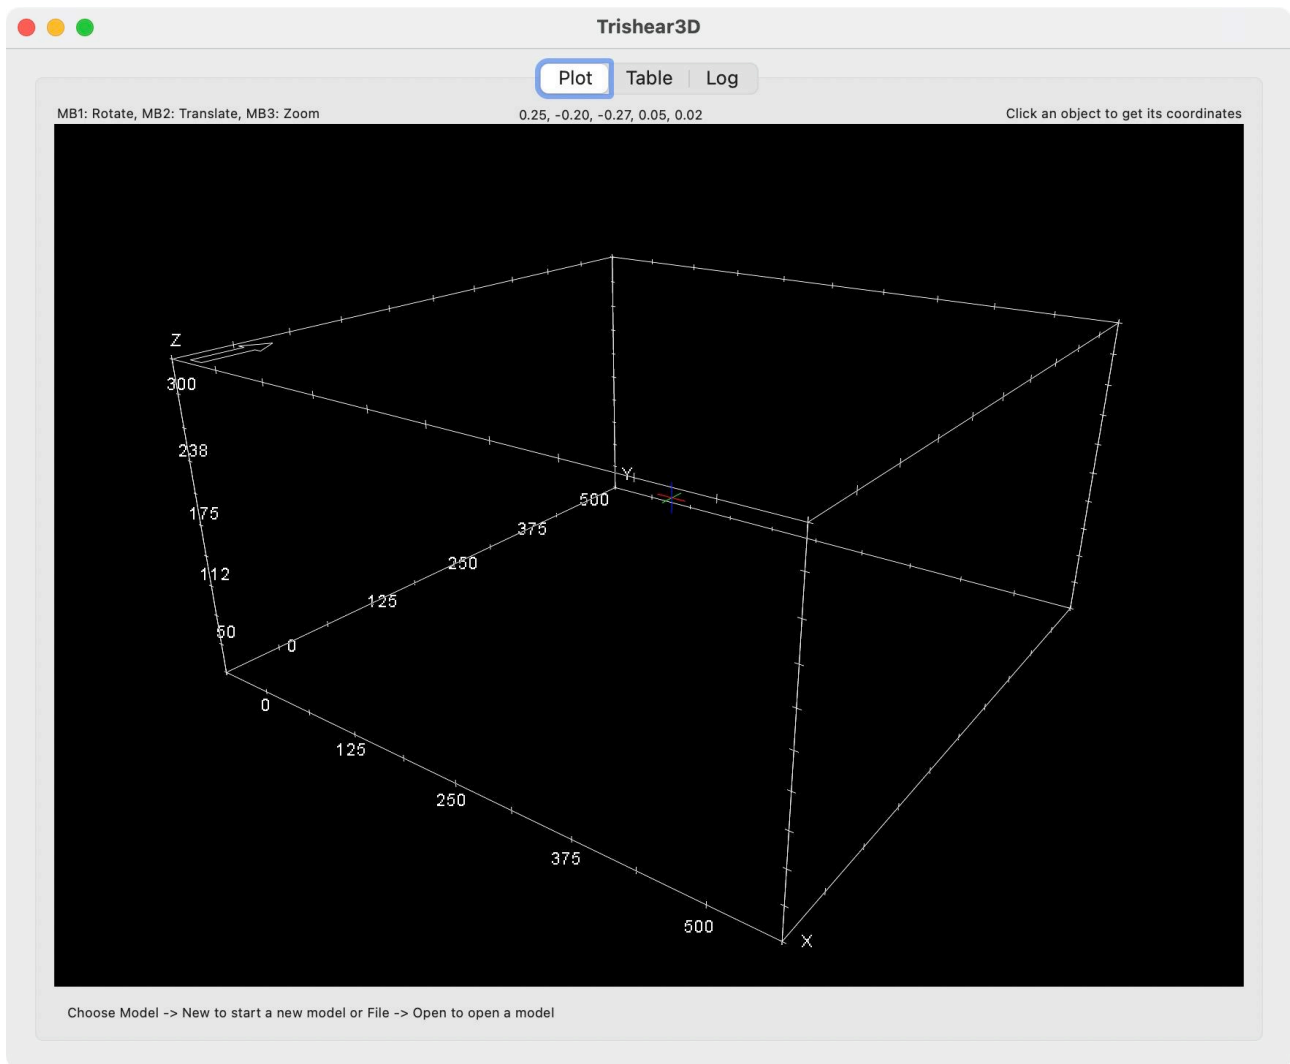

Figure 1. **Trishear3D** main window and the *Plot* view
When the program starts, it looks like Figure 1. The program's main window consists of three views: (i) A *Plot* view, (ii) a *Table* view, and (iii) a *Log* view. The *Plot* view displays the model in three-dimensions, the *Table* view lists the model's geometry and strain data, and the *Log* view is a record of the program's use. You can access any of these views using the tabs on top of the window, the Modules menu, or the keyboard combinations: ⌘1 for the plot view, ⌘2 for the table view, or ⌘3 for the log view.
The *Plot* view shows a white cube, a white arrow, and a triad (Figure 1). These objects indicate the reference coordinate system. You can toggle them using the *Plot* -> *Reference Frame* menus, or alternatively typing  $\backslash \mathbb{B}$  to toggle the cube, or  $\backslash \mathbb{A}$  to toggle the arrow and the triad. The reference coordinate system of **Trishear3D** is a right handed Cartesian coordinate system with *X* increasing to the east, *Y* increasing to the north, and *Z* increasing upward. The triad at the center of the cube indicates the orientation of the axes: the red line is parallel to the *X* axis, the green line to the *Y* axis, and the blue line to the *Z* axis. The white arrow points towards the positive *Y* axis (north). The ticks and labels at the sides of the cube indicate the model dimensions.
The X, Y, and Z coordinates of any non-transparent, solid object in the *Plot* view can be obtained by clicking the object. The coordinates are shown in the text field at the upper right corner of the view (Figure 1). The zoom and orientation of the view can be modified using the following keyboard combinations:
You can also modify the *Plot* view using a three buttons mouse. To rotate the model, press the left mouse button and drag the mouse. To zoom the model, press the right mouse button and drag the mouse. To translate the model, press the middle mouse button and drag the mouse. The settings of the Plot view are shown in the middle text field above the plot. This field contains five digits corresponding to the zoom, azimuth, inclination, vertical, and horizontal translation, respectively (Figure 1). You can reset the default view values using the *Plot -> View -> Reset* menu or the keyboard combination ⌘⇧R. The background can be changed from black to white (or vice versa) using the *Plot -> View -> Background Black* menu. By default the background is black. You can save the plot as a jpeg using the *File -> Save -> Plot as jpeg* menu or the keyboard combination ⌘⇧S .
1. The strike and dip of the fault. **Trishear3D** uses a right-hand convention. In this convention, the fault dips to the right (+ 90°) of the input strike direction. The strike is an azimuth angle measured from the North (white arrow in Figure 1).